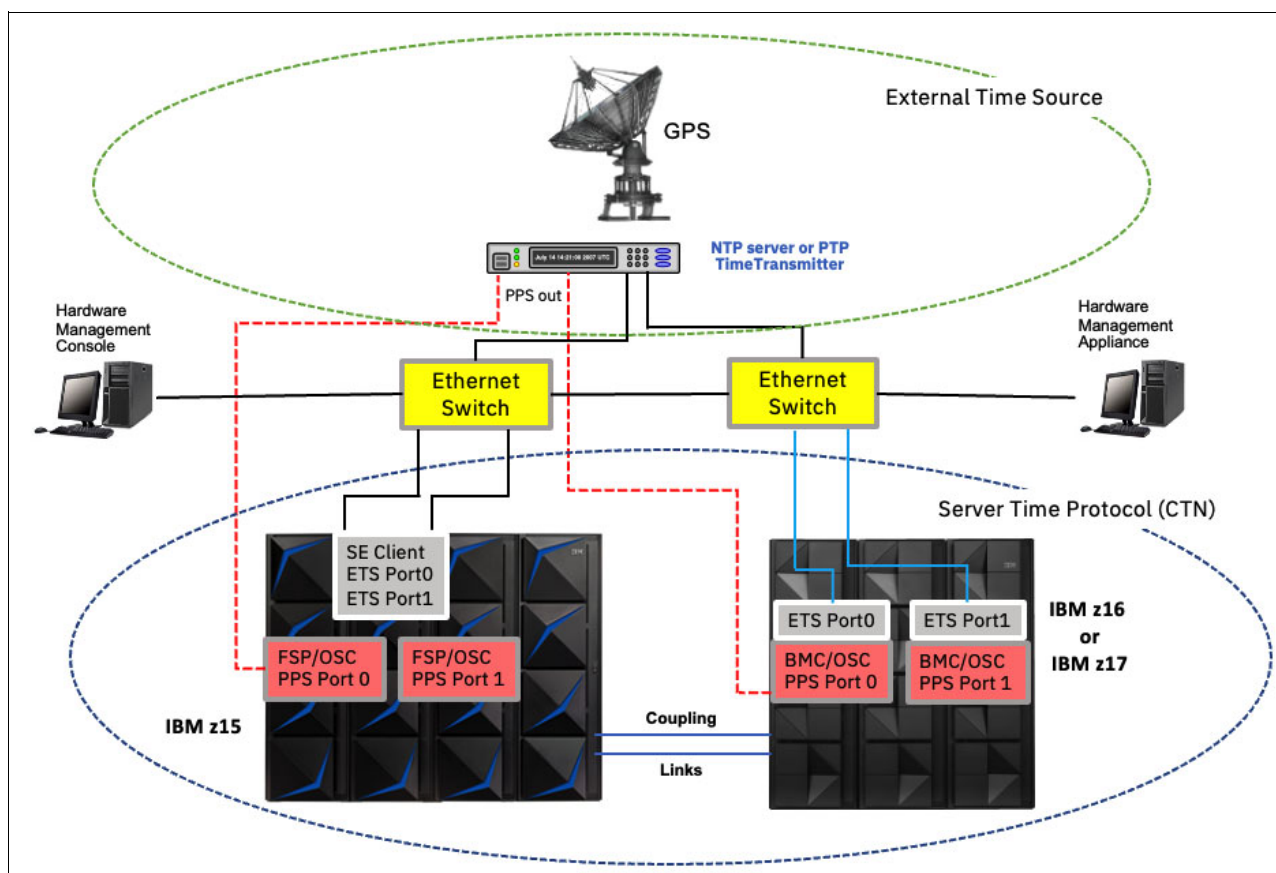

Figure 1-2 IBM Z time synchronization infrastructure
Figure 1-2 depicts a high-level overview of the IBM Z time synchronization infrastructure using STP with NTP or PPS. For greater time accuracy, the external time reference (ETS) has a direct network connection to the IBM z17 or IBM z16 CPC (Central Processing Complex) drawer. The CPC is an IBM Z system with CPU and I/O. With the IBM z15, the connection to the ETS is established through the IBM Z System Element (SE).